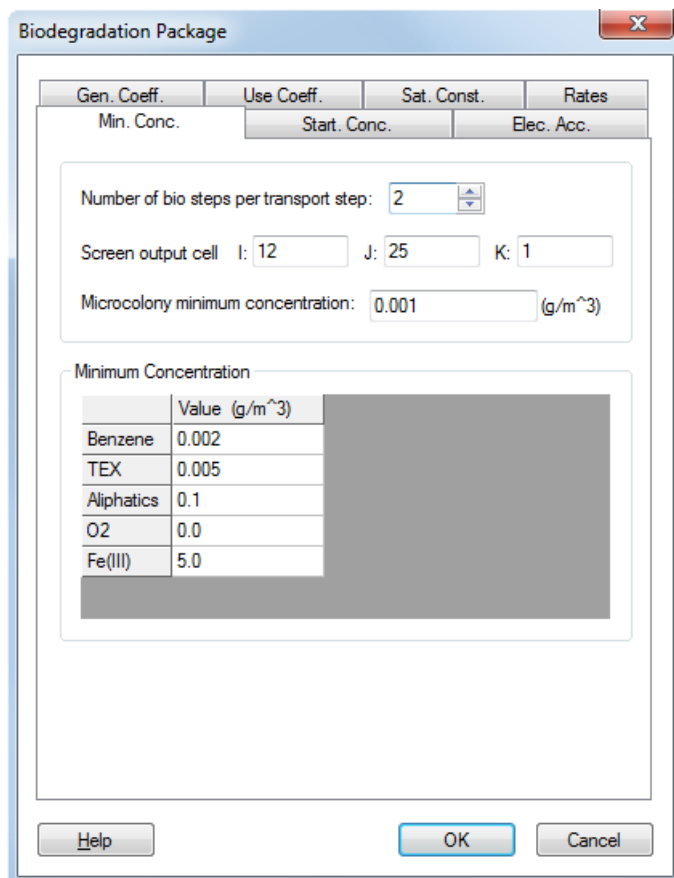

Figure 5. Biodegradation Package (Min. Conc.) dialog.
2. Enter the values shown in Figure 5 for *Number of bio steps per transport step*, *Microcolony minimum concentration*, and *Minimum Concentration values for the species*.